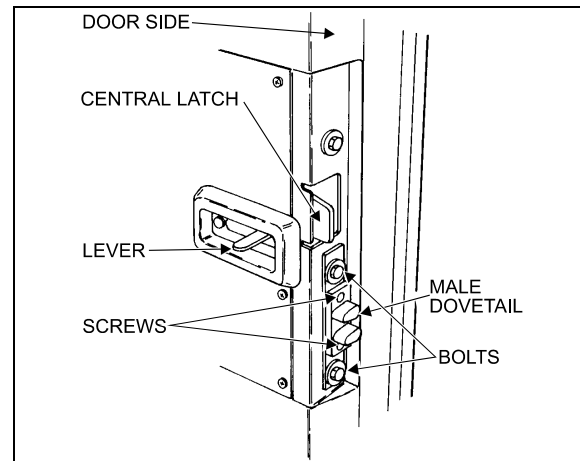

FIGURE 20: DOOR LATCH (COACH)
5. To adjust the male dovetail on L.H. side of the door, remove the two screws and loosen the two bolts. Slide the male dovetail toward the interior and loosely tighten the two bolts. Close the door slowly but firmly, then slowly open it and tighten the two bolts. Attach dovetail to the door with screws. See figure 20.